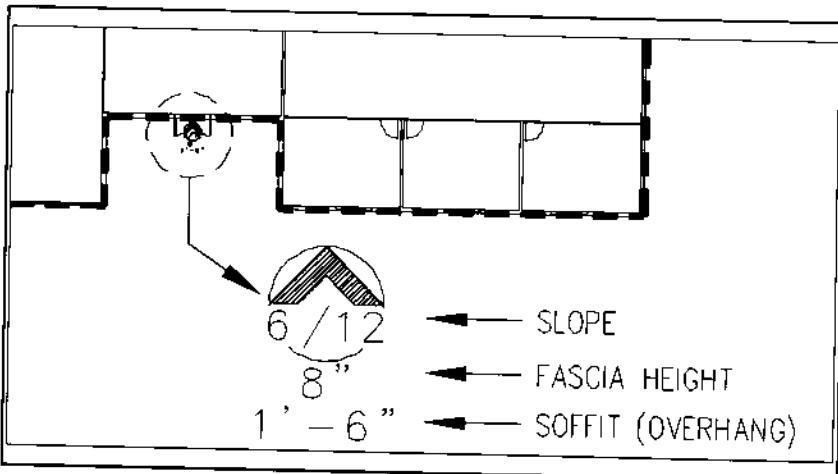

Figure 11.
9. The roof symbol values shown in Figure 11 can be altered later by selecting Update Slope Symbols in the Roof menu under the Architec pull-down menu.